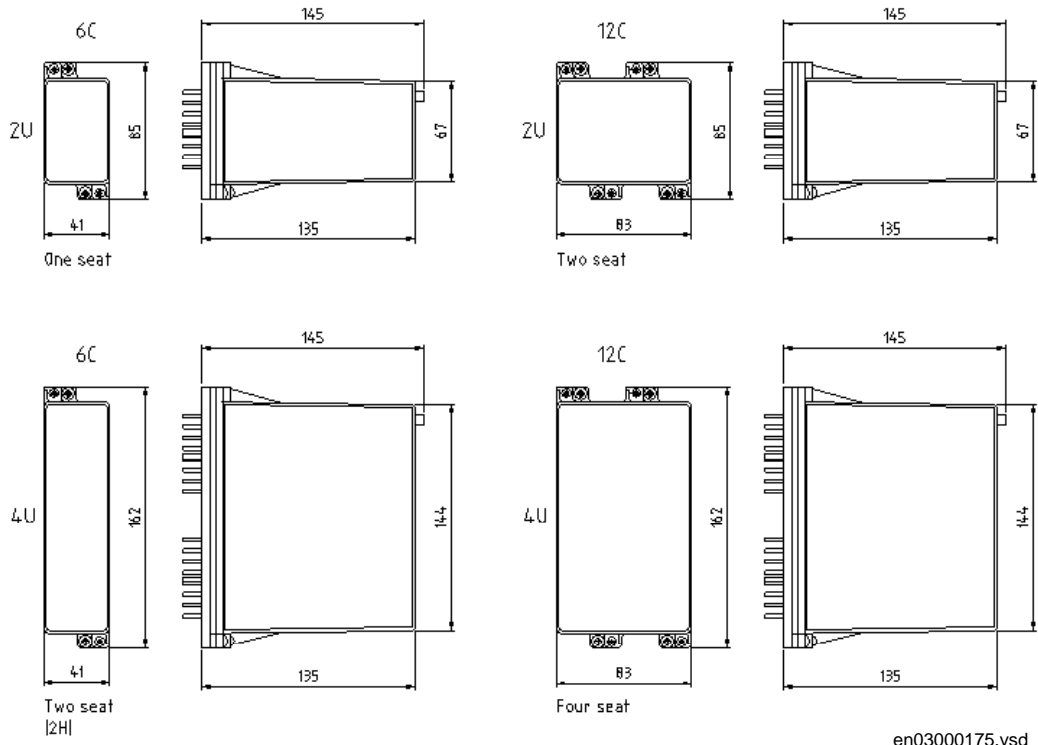

Fig.1
There are four (4) sizes of plug-in modules, see figure 1.